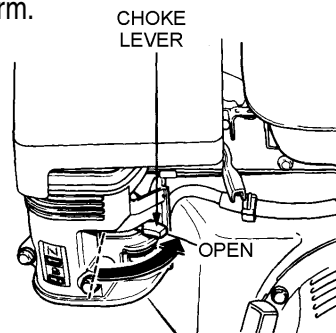

Figure 10. Engine Choke Lever (Open)
4. Place the choke lever (See Figure 10) in the **OPEN** position if starting a warm engine or the temperature is warm.